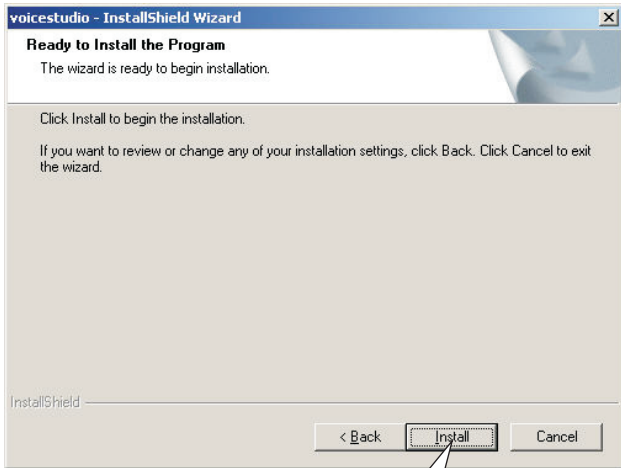

Figure 17
- Setup type selection, select the defaulted setup (Complete) type, click NEXT to enter Next step, as shown in figure 17: